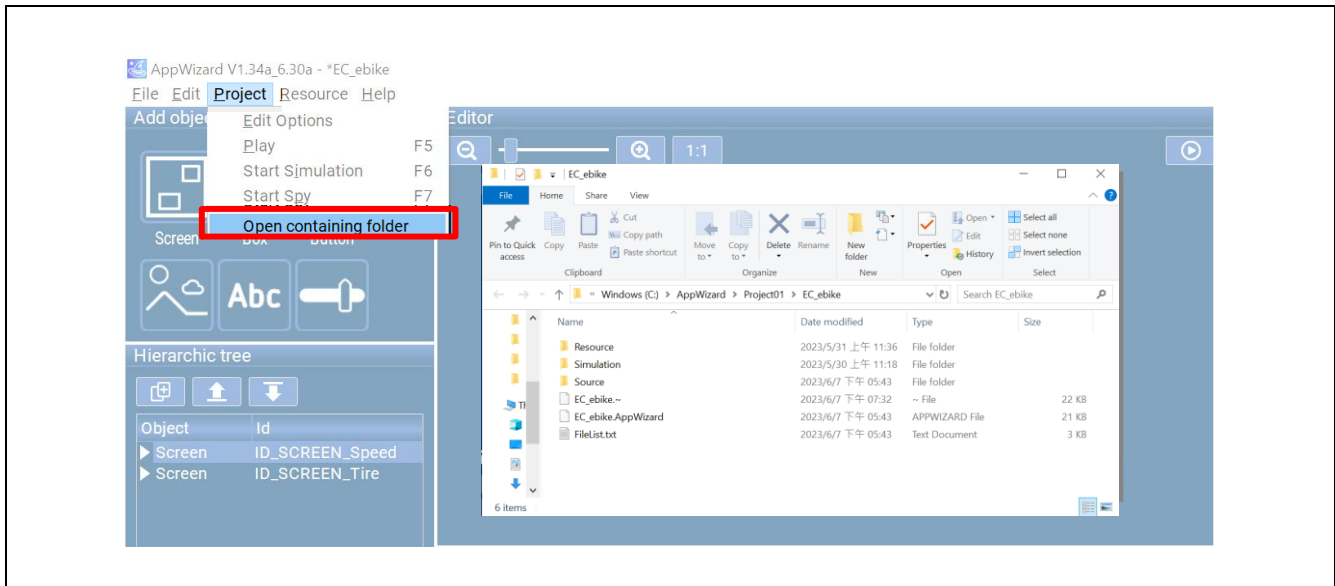
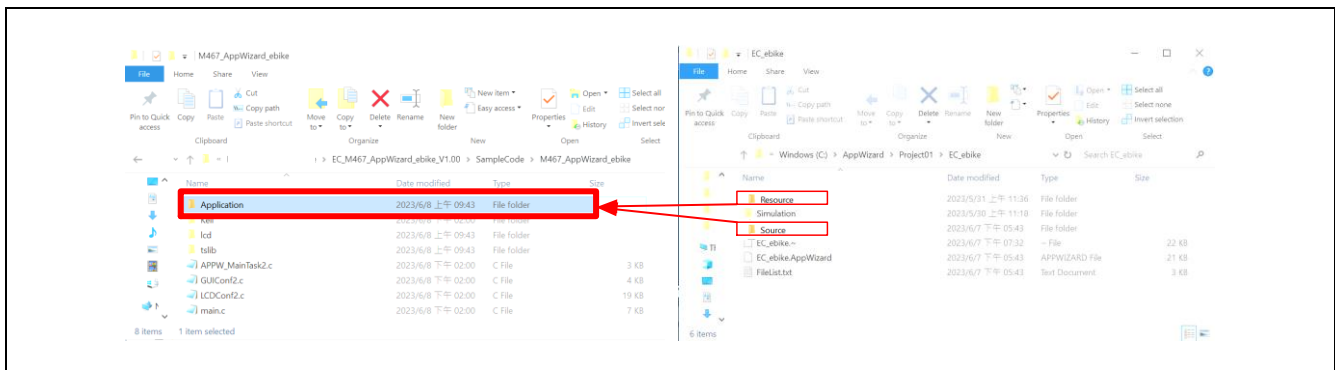

Figure 1-68 Open Project Folder
Figure 1-69 Porting to the Code Project
- Open the AppWizard project folder through **"Project -> Open containing folder"**. Copy the "Resource" and "Source" folders. Navigate to the path *"EC_M467_AppWizard_Ebike_V1.00\SampleCode\ExampleCodeM467_AppWizard_Ebike\Application"* and replace the existing files with the copied folders. Follow the steps shown in Figure 1-68 to Figure 1-69.